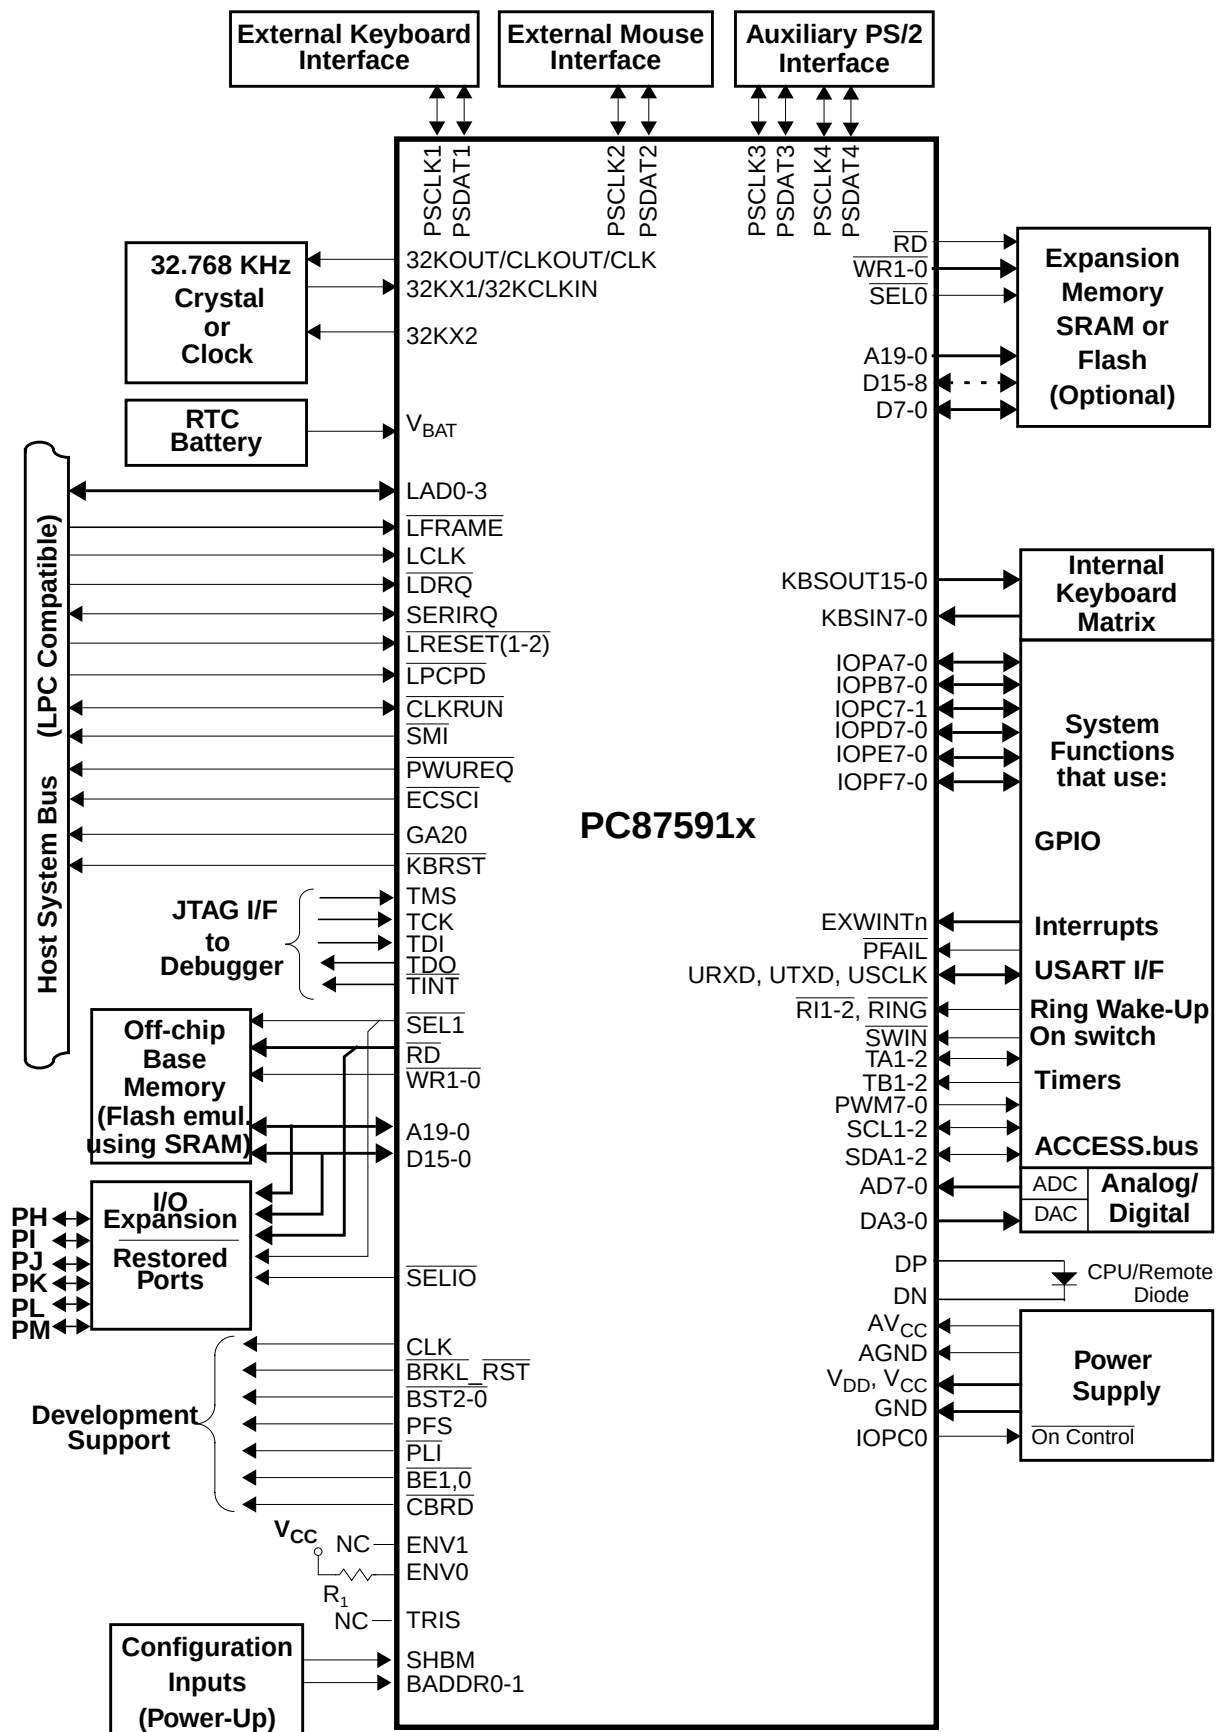

Figure 4. DEV Environment PC87591x System Connections Diagram, 176-Pin Package
See Figure 4 on page 32 for a system example in DEV environment. In this environment, the ENV0 strap pin needs an external pull-up resistor and the ENV1 and TRIS pins are left unconnected. If the flash Contents Protect bit in the protection word is cleared (0), the PC87591x remains reset until the bit is set; see Section 4.16.6 on page 230.